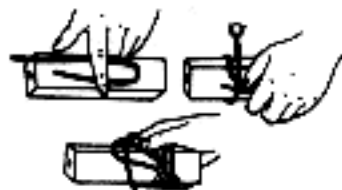

Figure 15-11B. Alternate method #2.
(2) Alternate method number 2 is shown in figure 15-11B. Place a loop of detonating cord on the explosive with four wraps around the block and loop. Ensure that in starting the first wrap that it immediately goes over the short leg of the loop. Pull the running end through the eye of the loop and tighten. Initiate by an electric or nonelectric system.